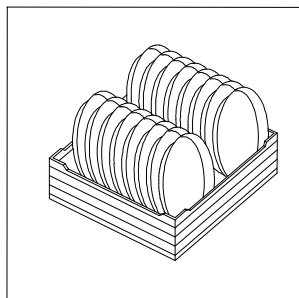

Fig. 11
- Put plates in the baskets, making sure each is in its separate rack (Fig. 11).